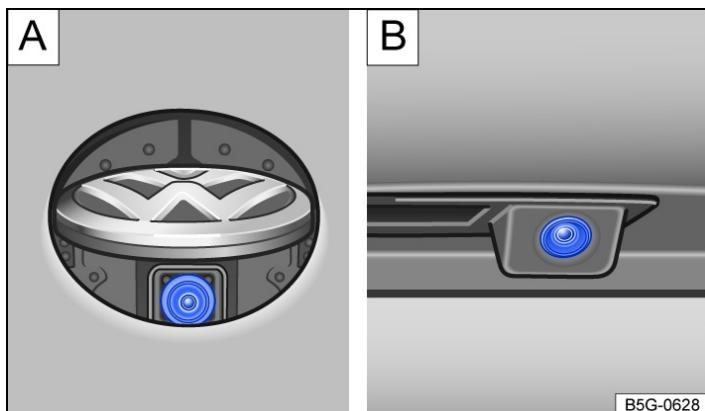

Fig. 1 At the rear of the vehicle: rear view camera system in the Volkswagen badge **A** or on the handle button **B** (schematic diagram).
*On vehicles with a rear view camera in the rear Volkswagen badge → Fig. 1 **A**:*